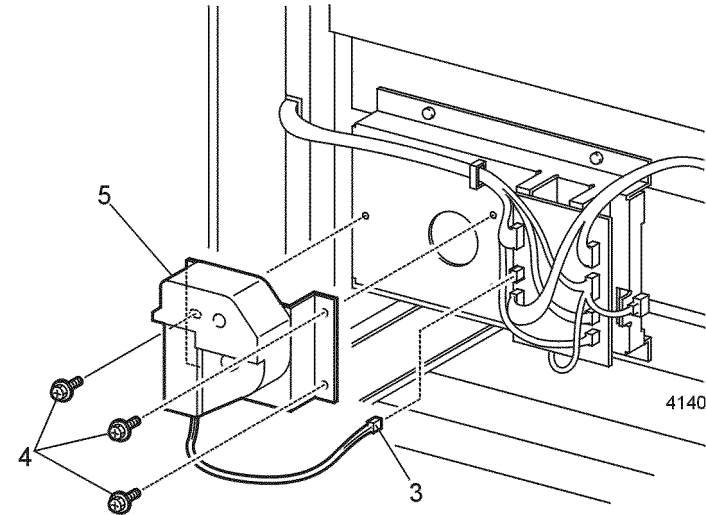

Figure 1 Tray Lift Motor Assembly
4. Remove the three screws that secure the Lift Motor Assembly (Figure 1).
5. Remove the Tray Lift Motor Assembly (Figure 1).